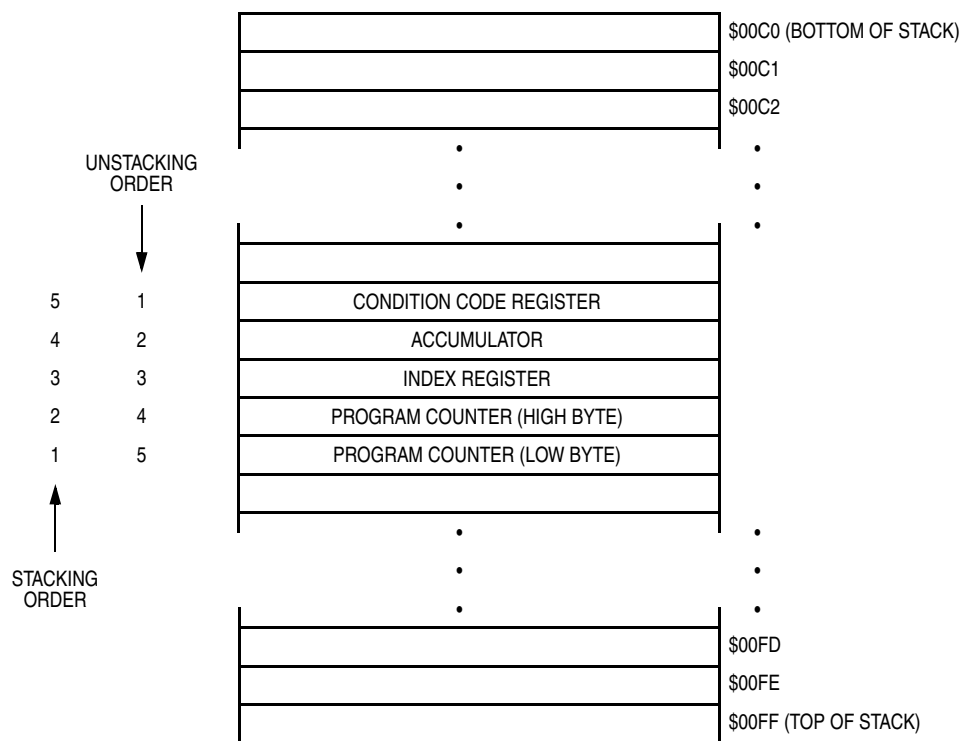

Figure 8-6. Interrupt Stacking Order
- Stores the CPU registers on the stack in the order shown in Figure 8-6
The return-from-interrupt (RTI) instruction causes the CPU to recover the CPU registers from the stack as shown in Figure 8-6.